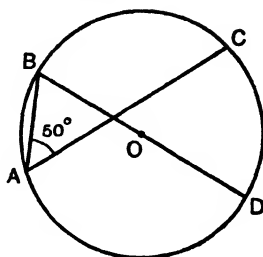

FIG. 34. DIAGRAM FOR EXAMPLE 1
1. O is the centre of a circle ABCD, and BOD is a straight line, Fig. 34.